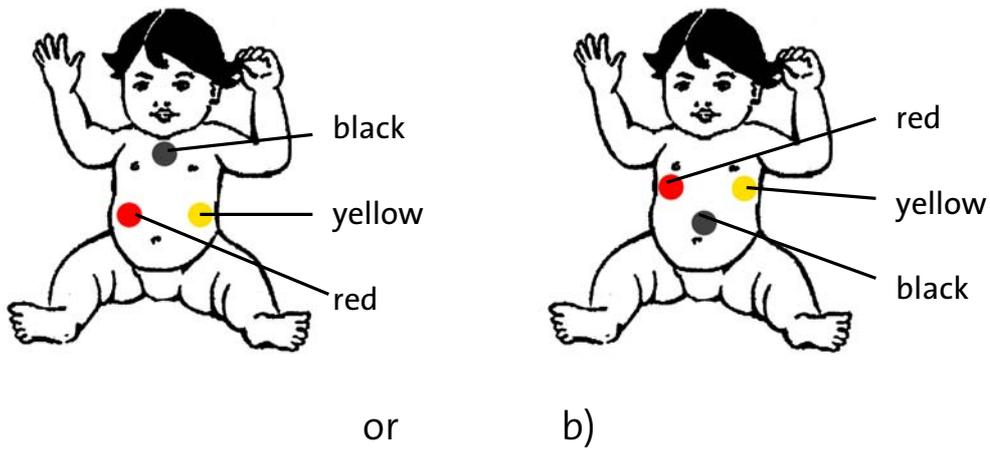
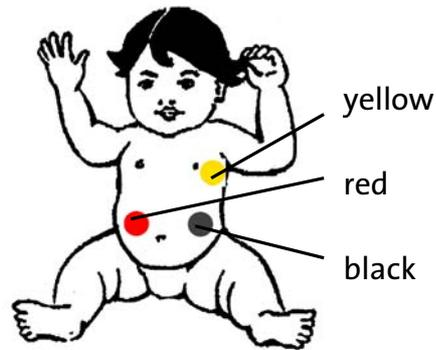

Fig. 27 Recommended electrode configuration
Fig. 28 Alternative electrode configuration for optimizing the heart and respiration signals
Start with the electrode configuration depicted in Fig. 27 (see next page). First arrange
- the electrodes on infants as depicted in Fig. 27 a) (this electrode configuration has often proved successful because the abdominal wall of infants clearly moves synchronously with the respiration),
- the electrodes on all other patients as depicted in Fig. 27 b)
If the electrode configuration depicted in Fig. 27 does not yield a good signal quality, you can also try the alternative electrode configuration depicted in Fig. 28.